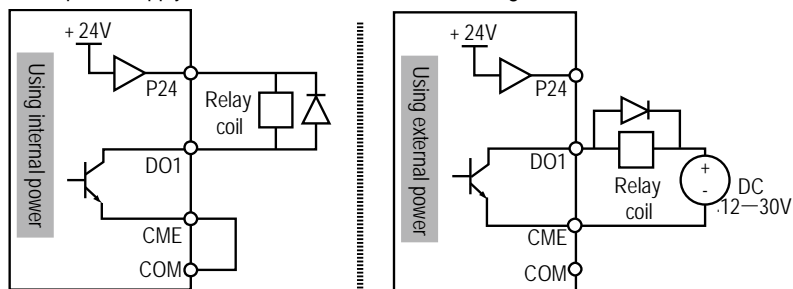

Figure 4-13 DO1 terminal connection
1. The multi-function output terminal DO1 can use the inverter's internal 24V power supply or the external power supply. The connections are as shown in Figure 4-13.